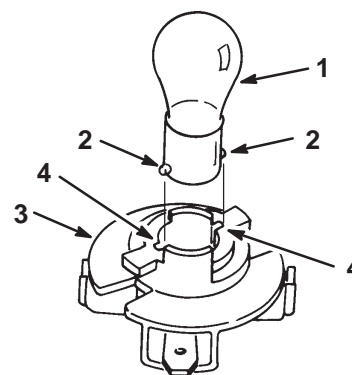

Figure 31
5. Push and rotate the bulb counterclockwise until it stops (approx. 1/4 turn) and remove bulb from the bulb holder (Fig. 31).
1. The bulb has metal pins on the side of its base. Align the pins with the slots in the bulb holder and insert the base into the holder (Fig. 31). Push and rotate the bulb clockwise until it stops.